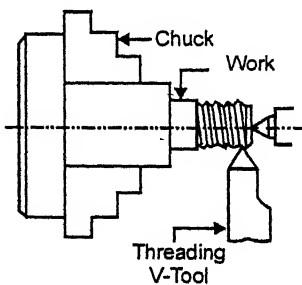

Fig. 10.23. Threading.
#### 10. Threading. Refer to Fig. 10.23.
- In this operation, as shown in Fig. 10.23, the work is held in a chuck or between centres and the threading tool is fed longitudinally to the revolving work. The longitudinal feed is equal in the pitch of the thread to be cut.